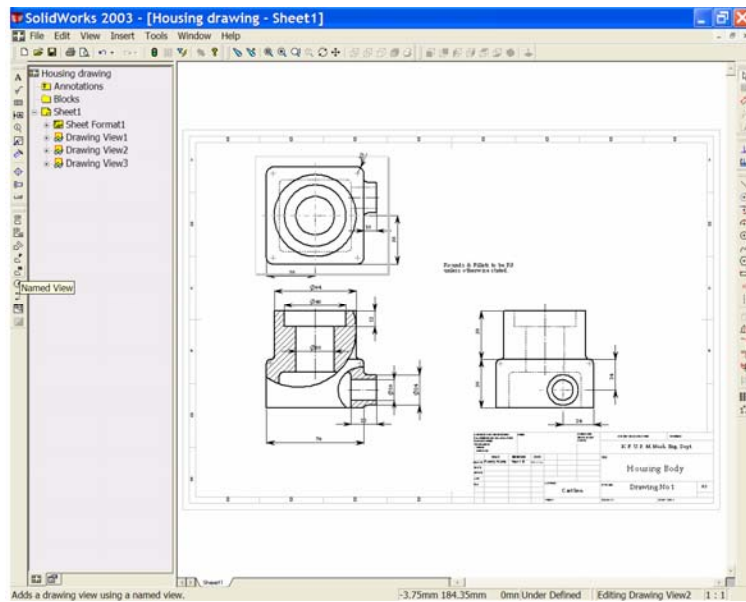
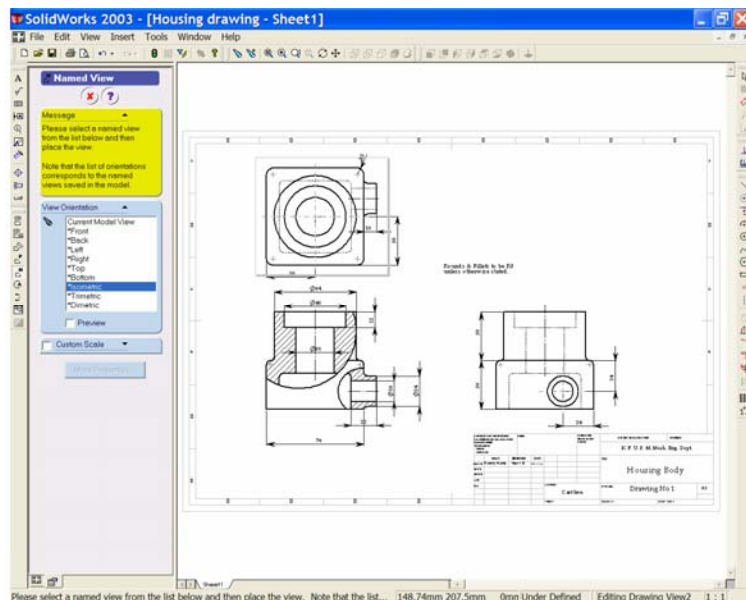

Figure 44
Figure 45
37. To finish we may now add a pictorial view of the model. From the 'Drawing Toolbar' select the 'Named View' button. See Figure 44. The Named View Property Manager opens and indicates four methods of selecting the model. See Figure 45. We will use method 1 for this drawing.
When you have placed the view choose the green tick  to complete the command. See Figure 45.